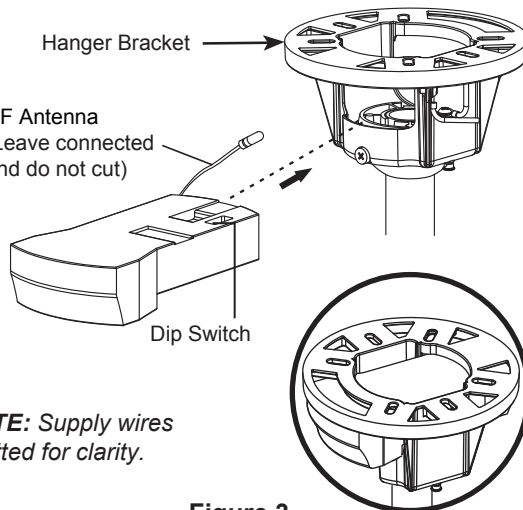

Figure 3
- ☐ **2.** Slide the receiver into the hanger bracket before wiring as shown in figure 3.